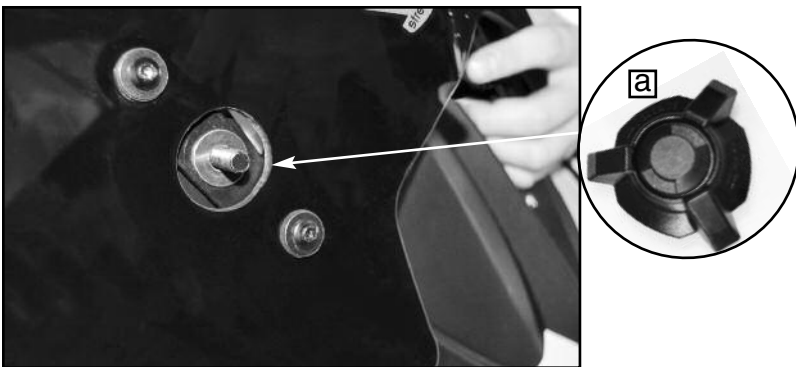

Figure 10
- 6. Tighten knobs (a) firmly. **Figure 10**